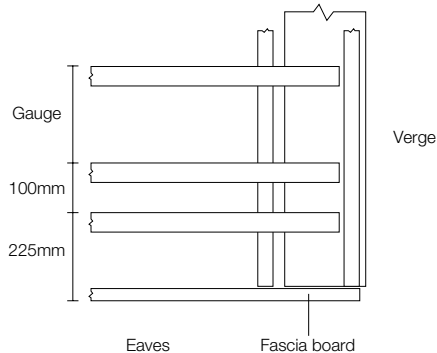

Fig. 5 - Batten configuration at eaves
- 2 Set out both under-eaves battens to accommodate the under-eaves slate lengths, similar to those shown in the table on page 23, and Fig. 5 below, but following the correct laps and gauges.